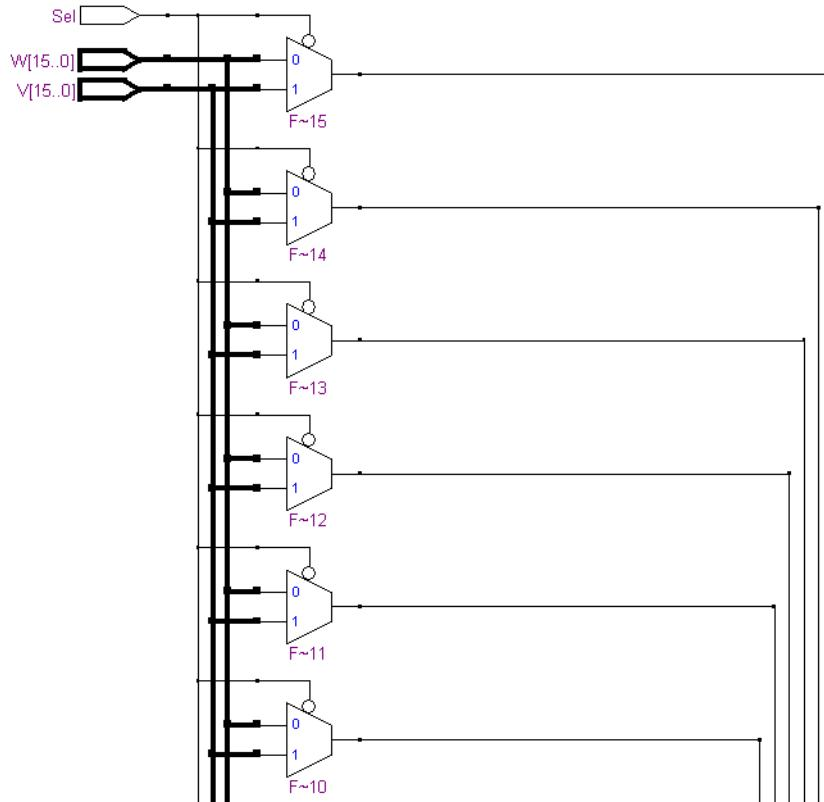

Figure 30: The multiplexer subcircuit.
3. Details of subcircuits can be seen by clicking on the box that represents a subcircuit. Double-click on the *mux2to1* box to obtain the image in Figure 30. It shows the multiplexers used to choose either the *Areg* or *Z* vector as one of the inputs to the adder, under control of the *SelR* signal. Observe that the multiplexer data inputs are labeled as specified in the VHDL code for the *mux2to1* entity in part *b* of Figure 12, namely as *V* and *W* rather than *Areg* and *Z*.